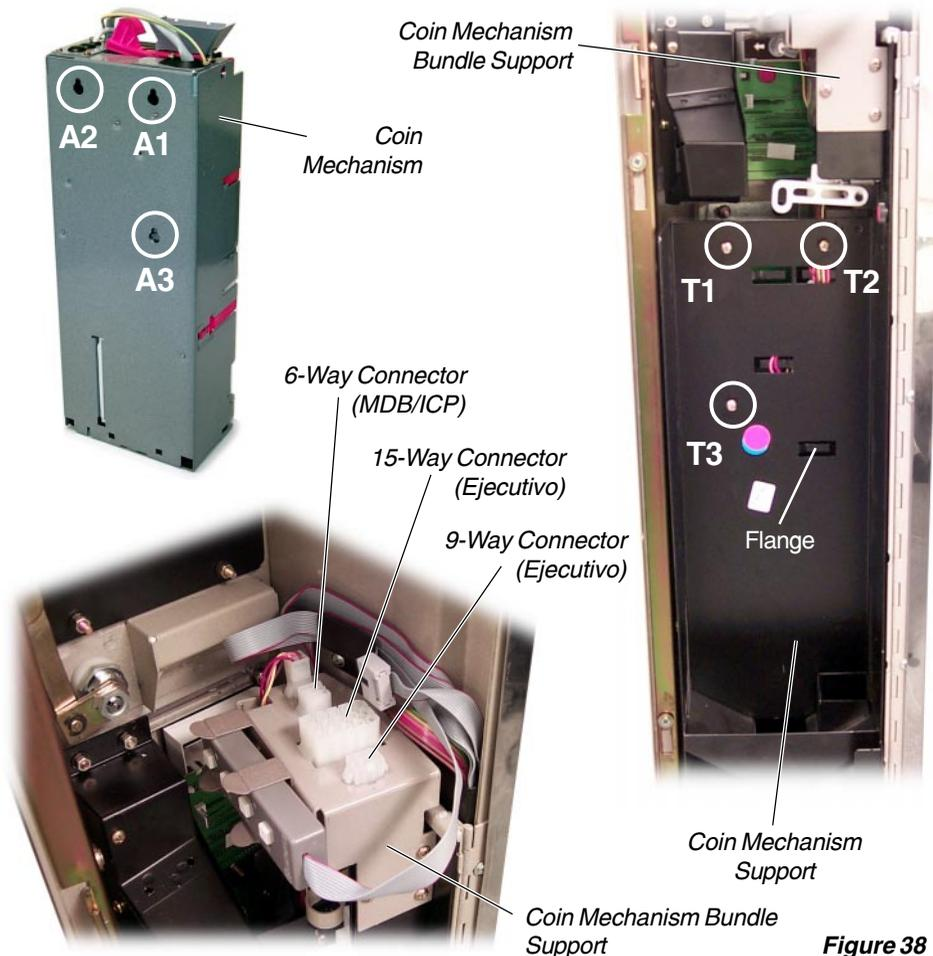

Figure 38
- 3.- Plug the coin mechanism into its connectors found in the connector support shown in **figure 38** and screw down the grounding bundle (yellow-green) to the chassis of the door. The leftover cable can be pushed behind the coin mechanism support and fastened with special flanges for this purpose.